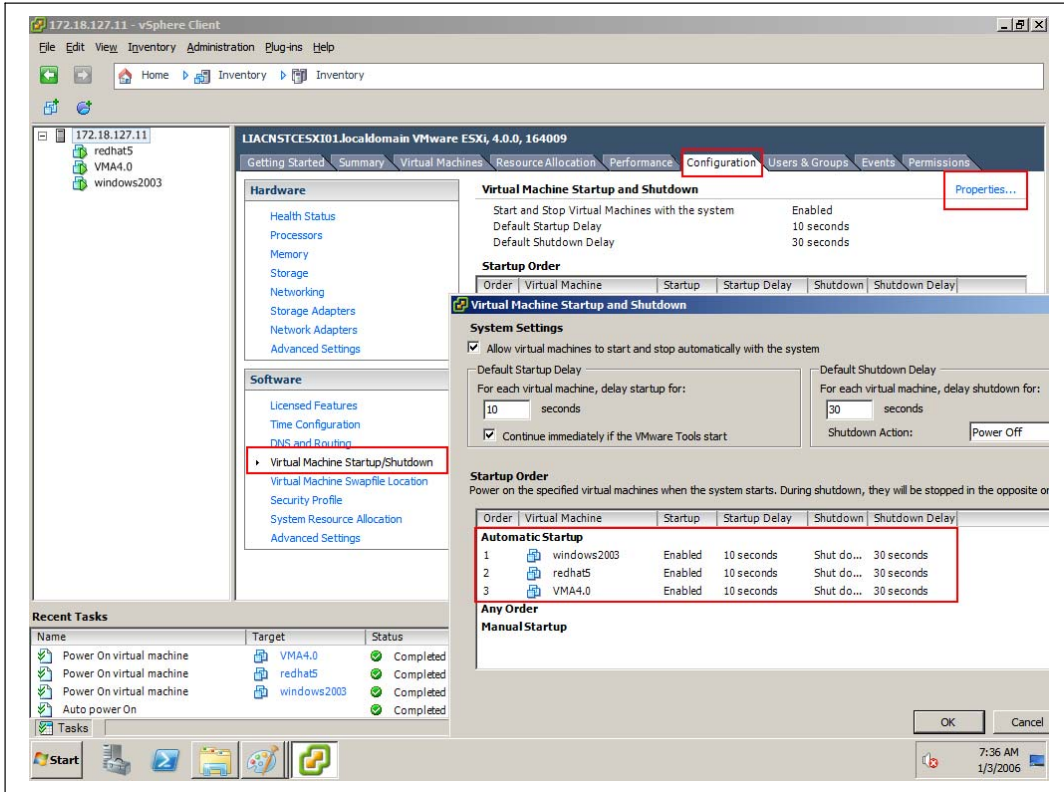

Figure 122. Startup/Shutdown Settings
- 2 Select **Virtual Machine Startup/Shutdown** from the Software list and click **Properties**. The Virtual Machine Startup and Shutdown window opens (see Figure 122).